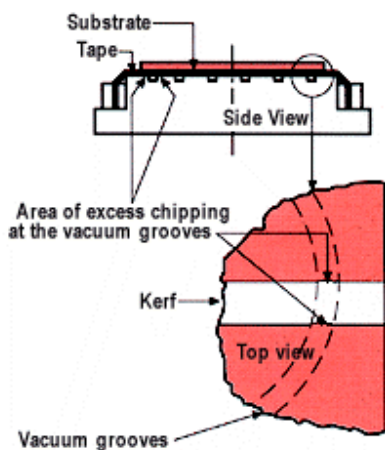

Figure 10
1. Chipping at the contact between the wafer and the tape is a well known phenomena when using a ring type vacuum chuck (figure 10). The chipping results from internal stress created during the cutting process at the ring vacuum groves.